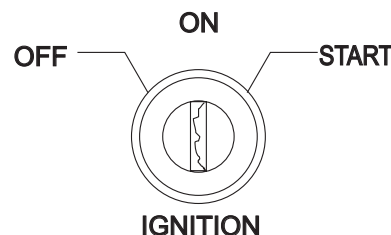

Figure 24. Ignition Switch
5. To start the engine, insert the ignition key (Figure 24) into the ignition switch and turn the key to the **ON** position.